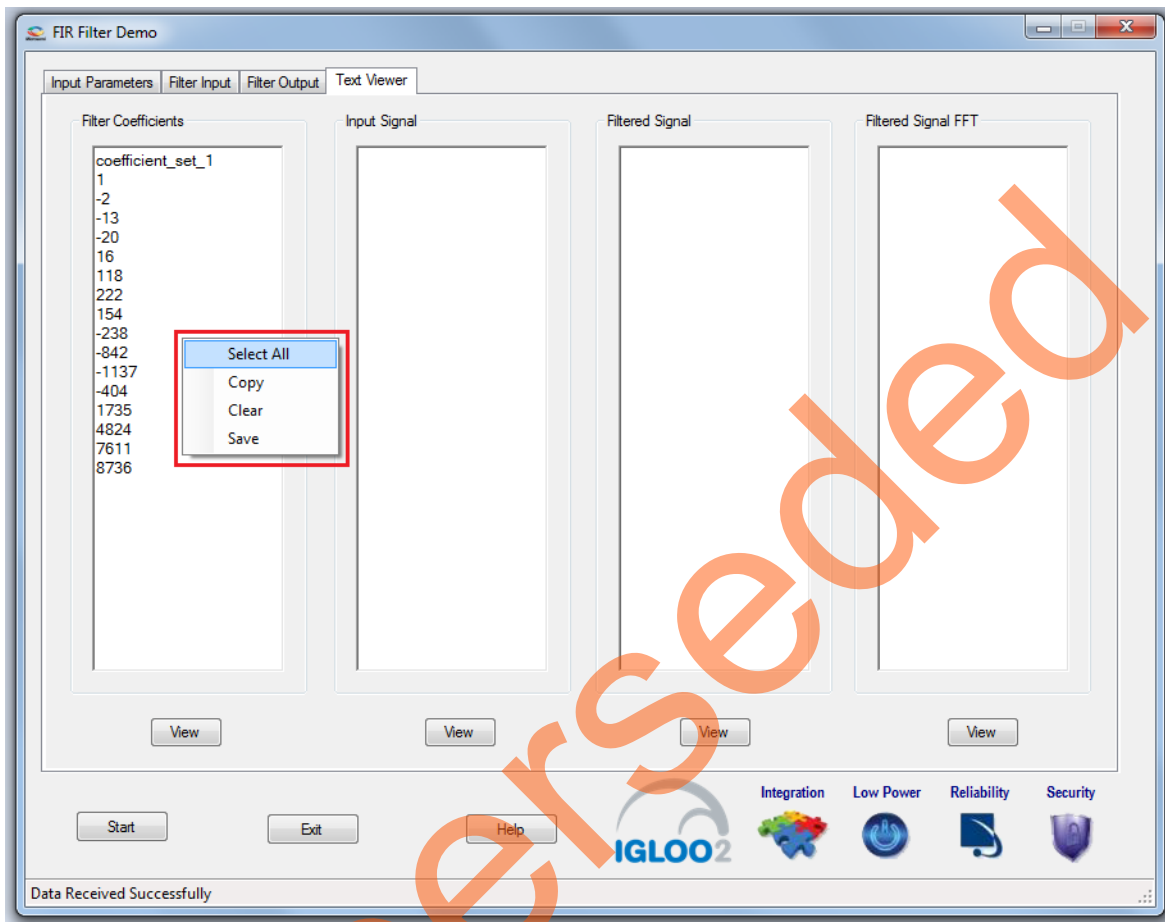

Figure 21 • Text Viewer: Coefficients Save Options
10. To save the coefficients as a text file, right-click **Filter Coefficients** window, it shows different options, as shown in Figure 21. Click **Save** and select **OK** to save the text file.